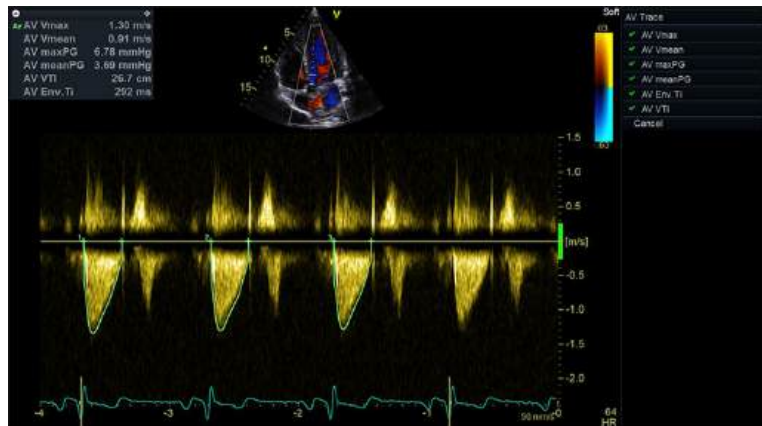

Figure 8-35. Cardiac Auto Doppler Measurement screen
2. The generated trace is created and average measurement values are displayed, see Figure 8-35.